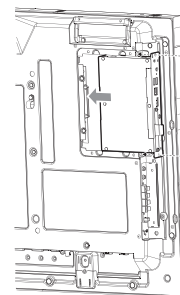

Figure 2
- Insert option board in to the monitor (**Figure 2**).